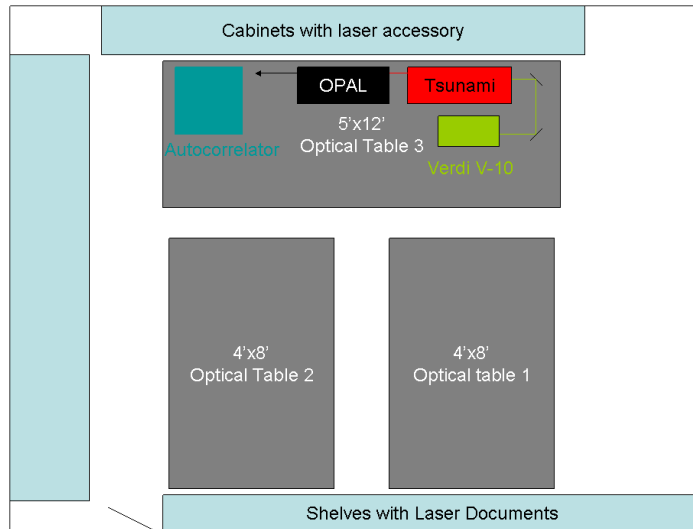

Fig. 1: Location of Lasers and documents
- Location: 5'x12' optical table at the back of the laboratory(Fig. 1 )